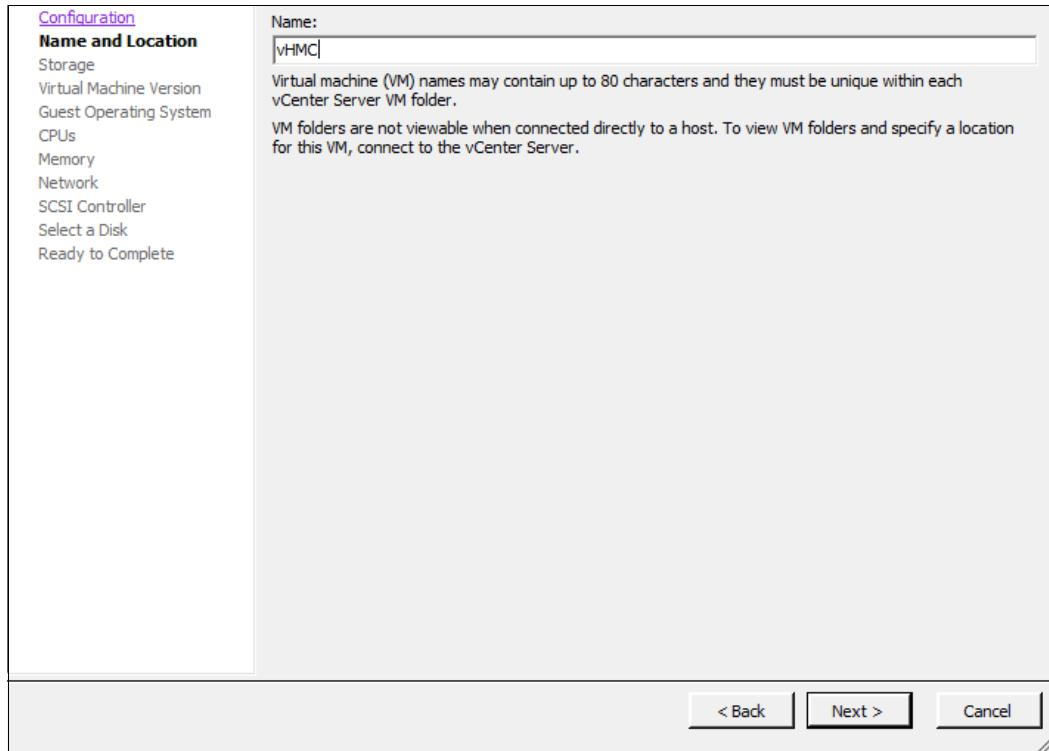

Figure 3-5 Name and Location panel
3. On the Name and Location panel (Figure 3-5), type in a name of your choice for your VM, and click **Next**.